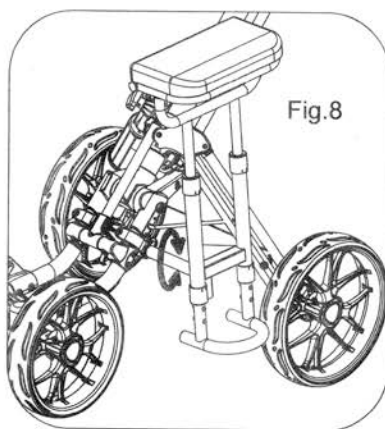

Fig.8
6. Adjustable the seat position, so the seat can vertical the ground as Fig.8